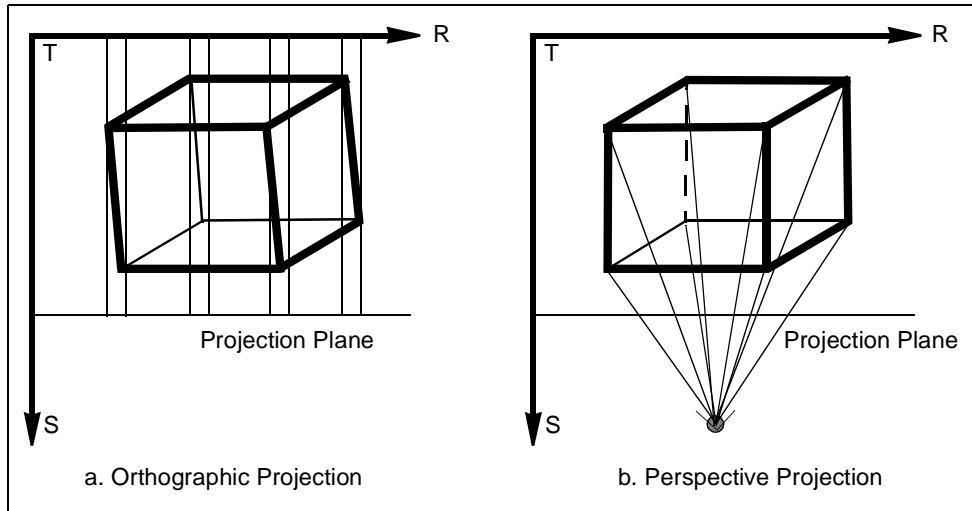

Figure 5-2 Graphic Projections
**Graphic Projections.** When three-dimensional objects are plotted, there are numerous ways in which their coordinates may be mapped to a two-dimensional plotting surface. NASTRAN-CORE supports two of these, the *orthographic projection* and the *perspective projection*. When an object is projected to the surface along parallel lines, it is called orthographic. If, on the other hand, the object is projected along lines that converge to a point, it is called perspective. These two cases are illustrated in Figure 5-2.